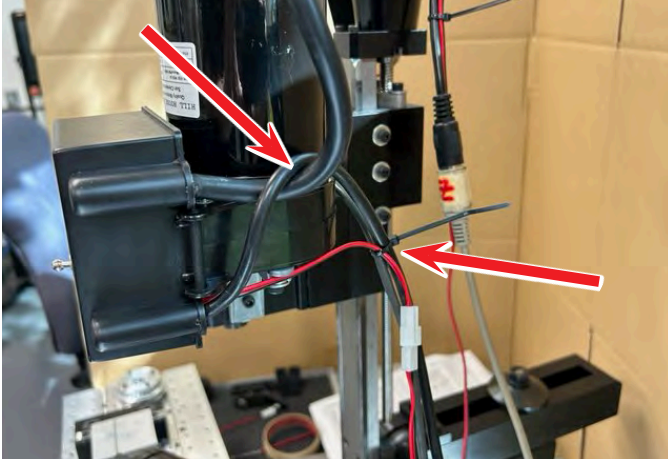

FIGURE 33
- iii. **DC Motor Power Cord:** Loop the power cord up and through the speed control cord that goes to the motor. Then zip-tie the encoder cable and the speed control pig tail (P/N 87839) to the power cord. With the proper amount of slack or tension, you should be able to direct each of these cable away from interference points and at the same time offer strain relief (see Figure 33).